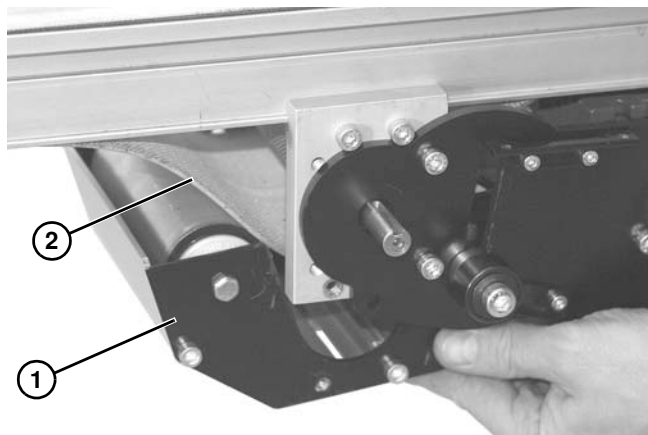

Figure 54
3. Lower and remove mid drive module (Figure 54, item 1) from belt (Figure 54, item 2).